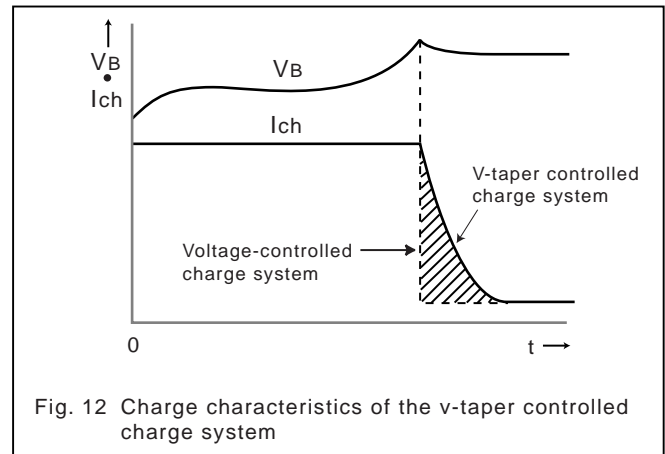

Fig. 12 Charge characteristics of the v-taper controlled charge system
- In comparison with the voltage-controlled charge system, this method is capable of increasing the charge level by the amount indicated by the shaded area in Fig. 12. However, just as for the voltage-controlled charge system, the setting of the detection voltage is extremely difficult when charge Ni-Cd batteries.